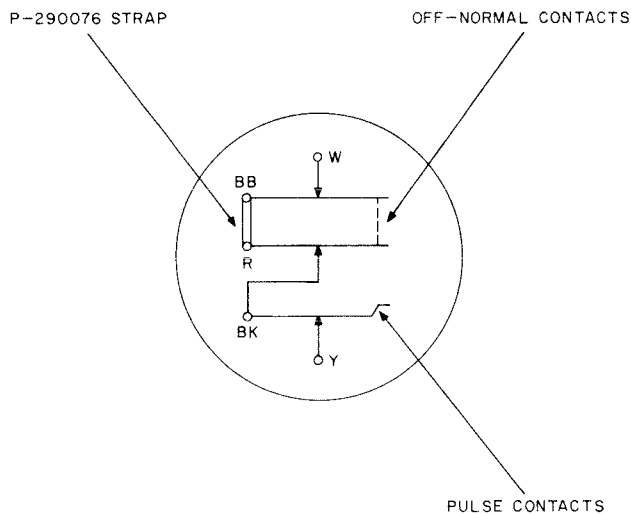

Fig. 11—Use of Dial Straps
**3.08** When 5- or 6-type dials are used in station circuits where the R spring is not normally required, it is necessary to strap dial terminals R and BB with P-290076 dial straps as shown in Fig. 11.